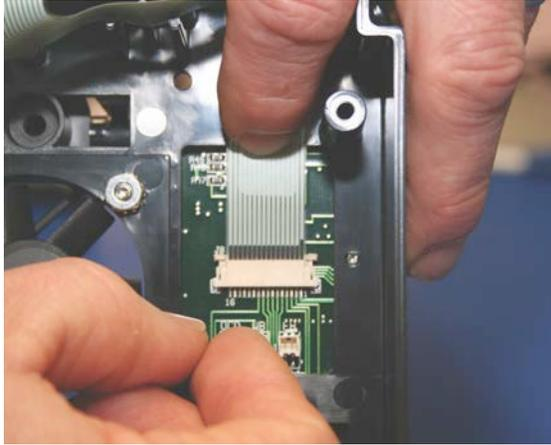

Figure 5.46
12. Insert into J8 Ziff (zero insertion force) connector, making sure that the flex circuit seats into the connector. Carefully press the Ziff connector locking tab in a downward direction. Ensure latch seats. (Figure 5.46)